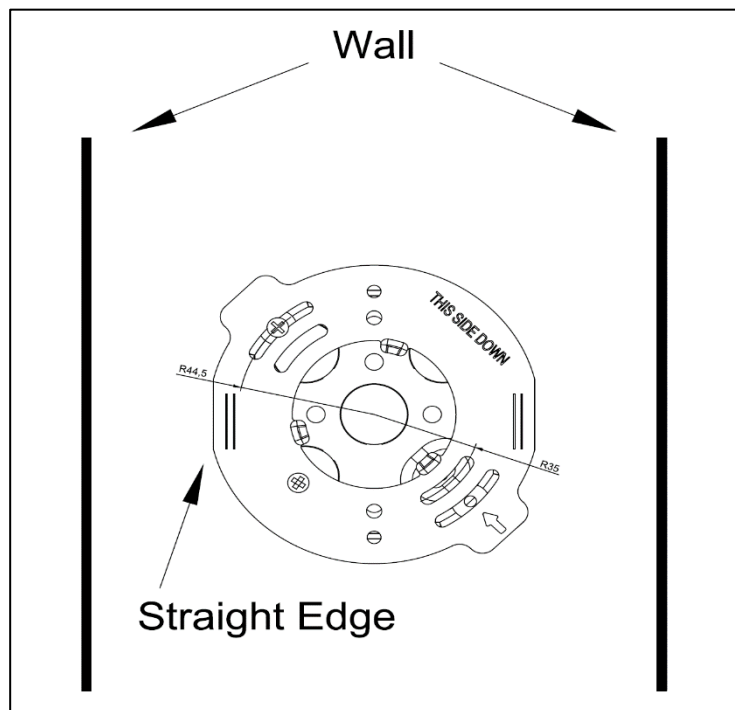

Figure 4
4. Use the provided #8 Screws to secure the Mounting Bracket flush to the ceiling by fastening them to the Junction Box. There are two mounting hole slots with diameters of 2.75 inches and 3.5 inches to accommodate different J box sizes. Ensure that the side of the mounting bracket with the text “THIS SIDE DOWN” faces the floor. If installing a **Square Saturn** fixture, use the **straight edges** of the mounting bracket to align it. To align a **square fixture** parallel to a particular **wall**, ensure that the straight edge of the bracket runs **parallel with the wall**, as shown in *Figure 4*.